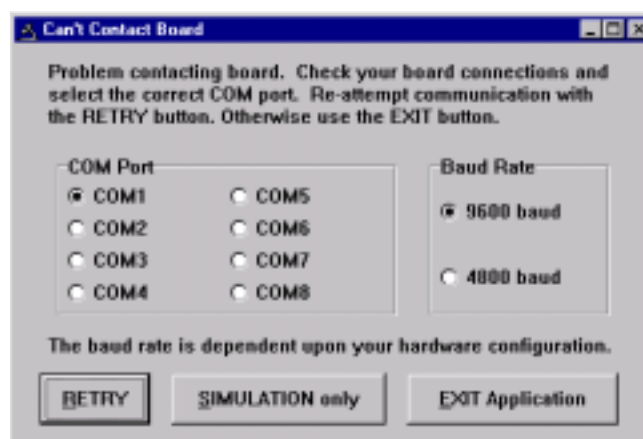

Figure 6-1. Can't Contact Board Dialog Window
- If the software is not able to connect with the pod, the **Can't Contact Board** dialog window (**Figure 6-1**) appears.